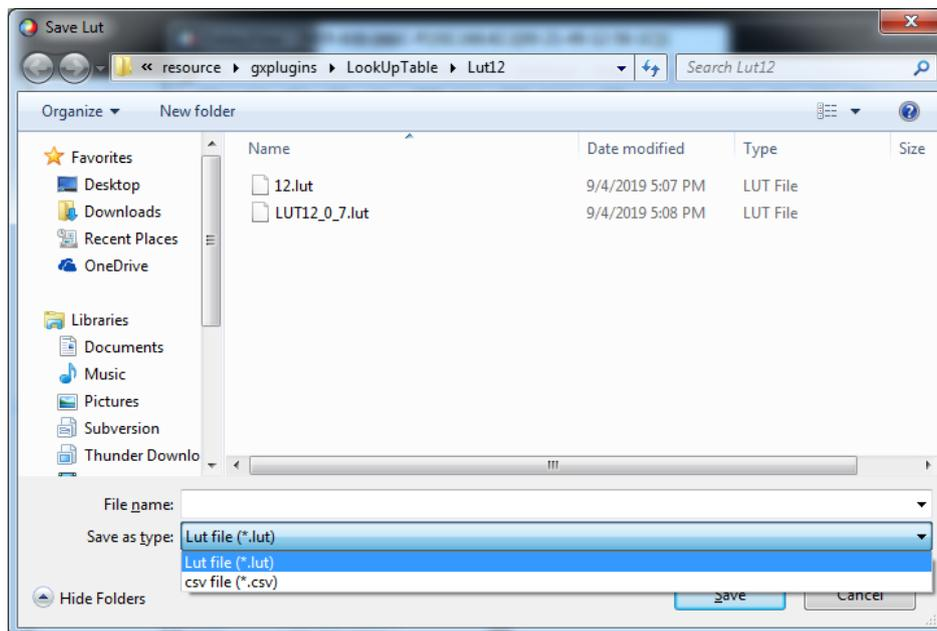

Figure 9-9 Save to file
1. When selecting "Save To File", the current LUT data can be saved to the file. The saved file contains two formats: lut and csv, as shown in Figure 9-9: